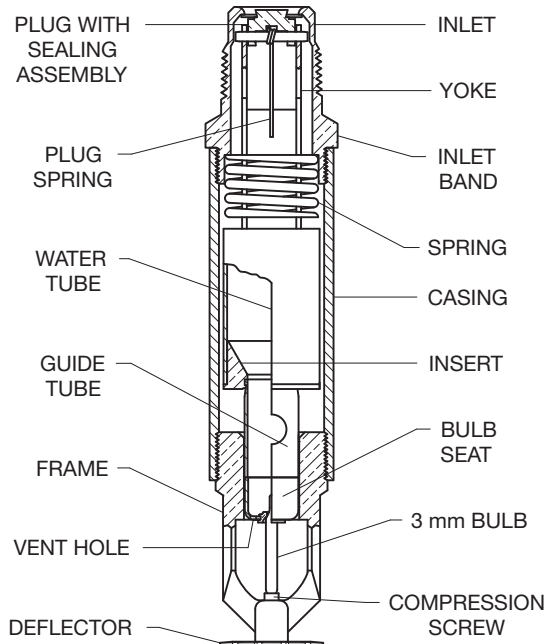

FIGURE 1
When the TYCO Series DS-1 Dry-Type Sprinklers, 5.6K Pendent, Upright, and Horizontal Sidewall, Quick Response (3 mm bulb) and Standard Coverage are in service, water is prevented from entering the assembly by the Plug with Sealing Assembly in the Inlet of the Sprinkler. See Figures 1 and 2.
- a pipe wrench on the Inlet Band or the Casing (see Figures 1 and 2)